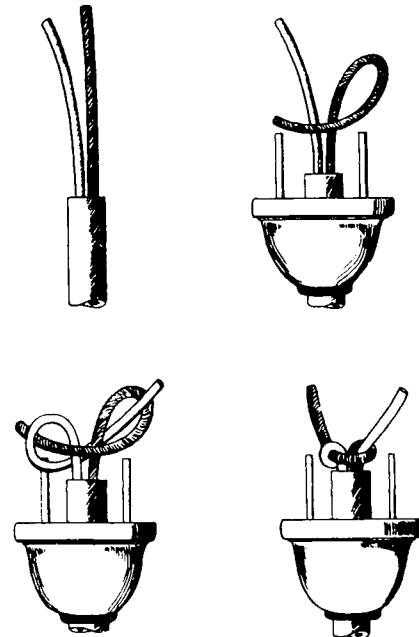

Figure 1
5. If there is no cord grip, tie the underwriters' knot (Figure 1). If there isn't room enough, make an "S" loop by passing the wires around the prongs before fastening them to the terminal screws as explained in the next step.